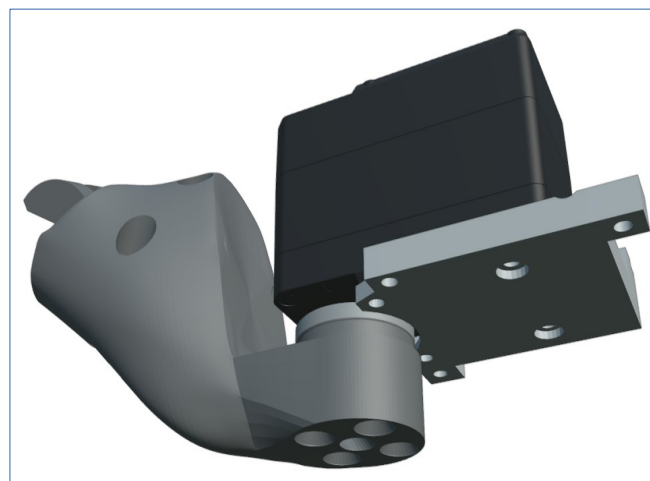

Figure 5.5: Thumb Base and TRS on TRS Platform
3. Insert the TRS Platform + Thumb Base assembly onto the skeleton as shown in figure 5.5 and fasten it with 4 M2 cylindrical-head screws with hex socket, 5 mm long.
1. Install each servo motor in its slot as shown in figures 5.5 and 5.6